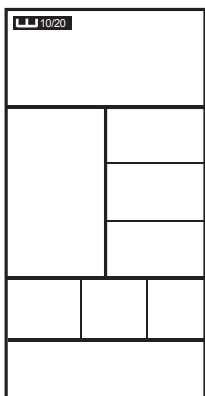
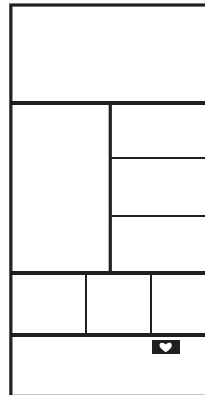

Figure 4
Figure 16
2. The window of INTERVAL10/20、INTERVAL10/20、INTERVAL CUSTOM、READY、WORK、REST、TIME、DISTANCE、CALORIES、WATTS、SPEED、RPM and will flash by sequence in every 1s (Figure 4~Figure 16). If no input of key operation or RPM signal or pulse input for 60s, computer will go to Sleeping mode.